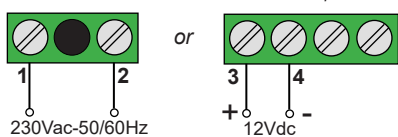

Fig. 2
**GAMMA** gas detector have to be powered at 230Vac 50/60Hz by the terminals 1 and 2 or with 12Vdc across the clamp 3 (+) and 4 (-) (Fig. 2).